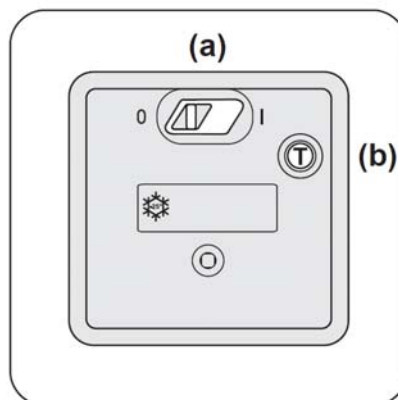

Figure 1
- Move switch ((a), Figure 1) to position I.
- Switch on residual-current circuit-breaker ((a), Figure 1) (position **I**).
- Press test button **T** ((b), Figure 1).